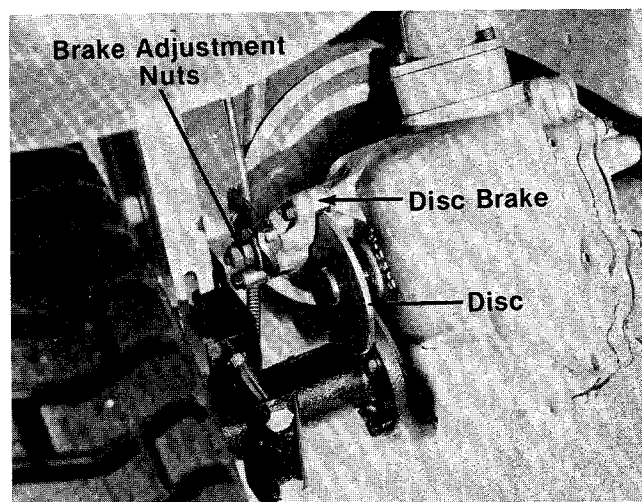

FIGURE 27.
2. If adjustment is necessary, tighten or loosen the brake adjusting nuts until the correct dimension is obtained. See figure 27. Periodic adjustment is necessary to maintain effective brake operation.